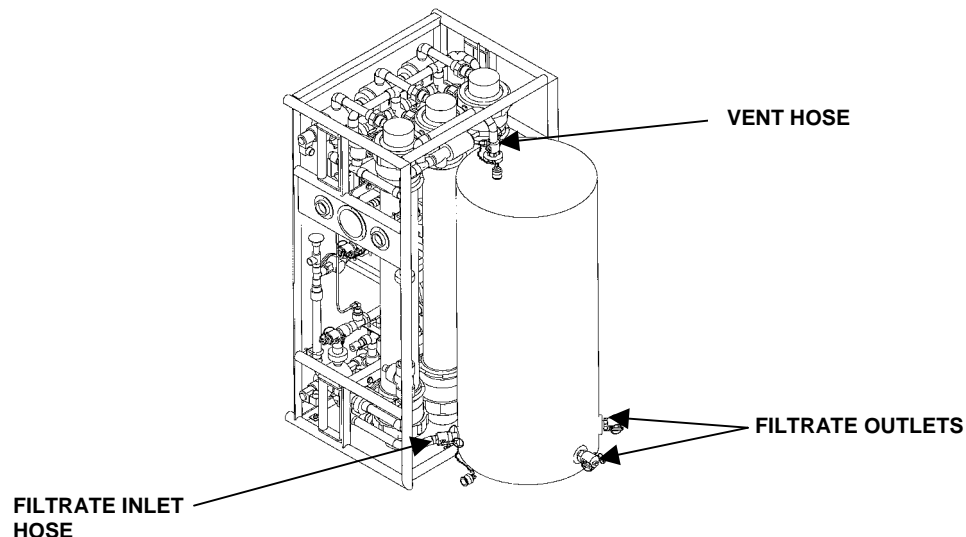

Figure 8. Inlet and Outlet locations of the filtrate tank.
6. Disconnect the filtrate tank inlet hose at the filtrate bag on the UF skid to bypass the filtrate bag and also to drain the bag (filtrate from this hose will be used to feed the RO module via the cleaning adapter during preservation). Also, disconnect the vent hose from filtrate bag and cap it. See Figure 8.